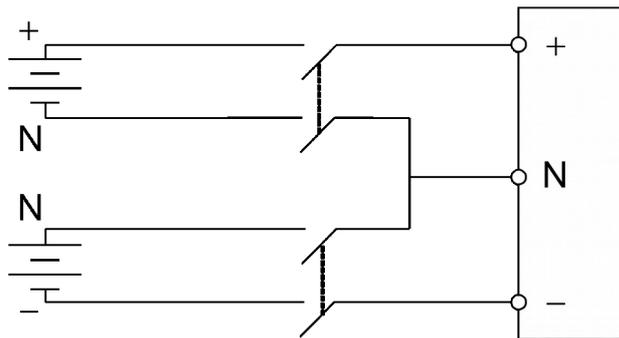

Figure 1 Wiring diagram of battery, circuit breaker and UPS when the external battery adopts four-wire connection
1. If the external battery is configured to have separate wiring of positive terminal and negative terminal (i.e., 4 wires will lead out from the battery side), for the 300kVA UPS, because of the rated current limit, it is recommended to adopt a 4P plastic enclosure DC circuit breaker (the DC rated voltage of the circuit breaker shall be single-pole 250Vdc/two-pole 500Vdc/three-pole 750Vdc, and the rated short circuit disconnecting capacity limit is 35KA) or two 2P plastic enclosure DC circuit breakers (the DC rated voltage of the circuit breaker shall be single-pole 250Vdc/two-pole 500Vdc, and the rated short circuit disconnecting capacity limit is 45KA). The connection between the battery, circuit breaker and UPS is as shown in Figure 1.